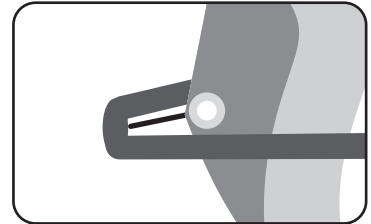

Fig. 6: Set the boom length to the outhaul cord
- c) Then, gently pull on the outhaul cord and set your boom to the end of the cord (fig. 6).